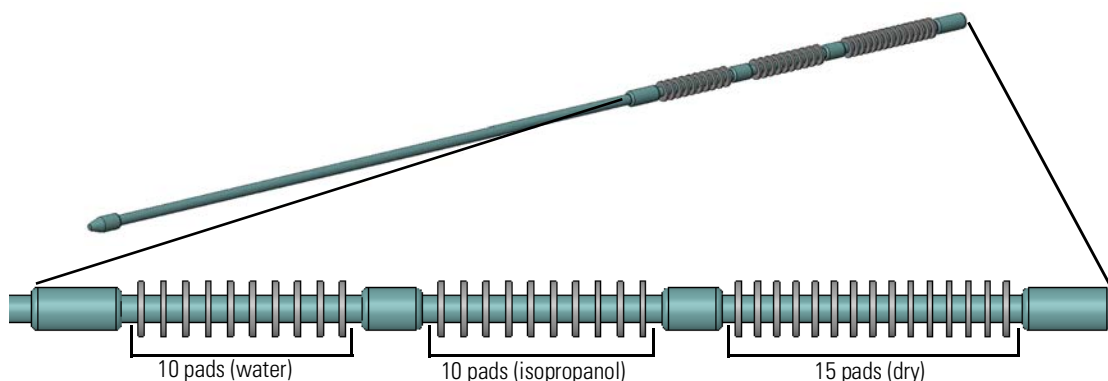

Figure 11. Preparing the cleaning tool
6. Prepare the quadrupole cleaning tool with isopropanol and water. See Figure 11.